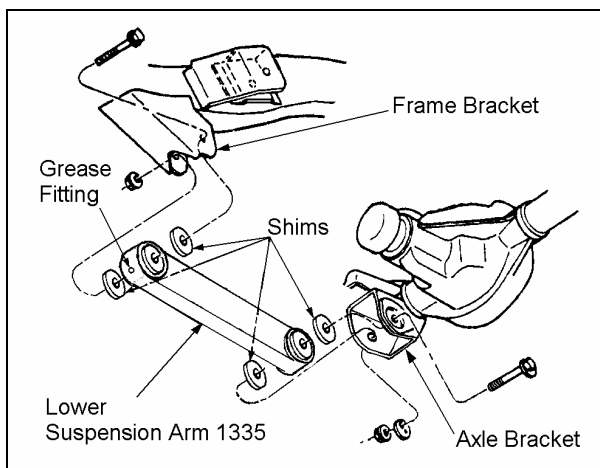

Figure 5
5. ☐ Install a new Rancho Lower Suspension Arm, along with four shims from kit 860070, to the frame and axle brackets. See figure 5. Use original hardware but do not tighten.